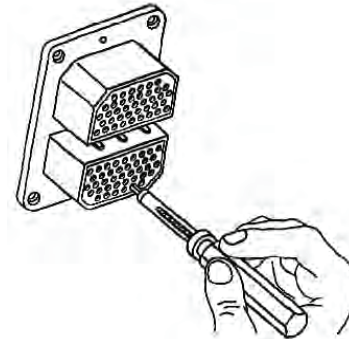

Figure 15. Contact Removal
- c. Working from the front (mating end) of connector, slide hollow end of removal tool over contact (Figure 15).